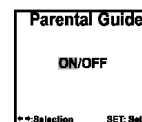

Figure 2
4. Press the SET key advance to the next menu (See Figure 2 - Parental Guidelines Rating).